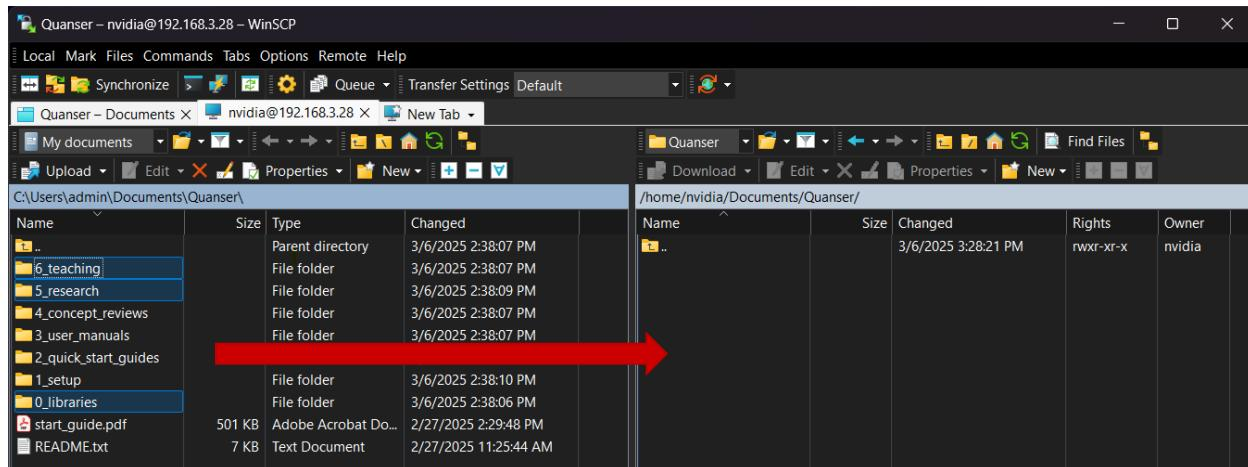

Figure 2. Transferring files to QCar
2. Using WinSCP, on your PC side, navigate to `Documents/Quanser`. On the QCar 2 side, navigate to your new `Quanser` folder. Your WinSCP window should look like figure 2. From your PC side, copy/drag the `o_libraries`, `5_research` and `6_teaching` folders over to your new Quanser folder in the QCar2.